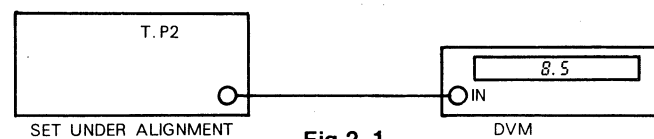

Fig.2-1
- Set up the test equipment as Fig. 2-1.